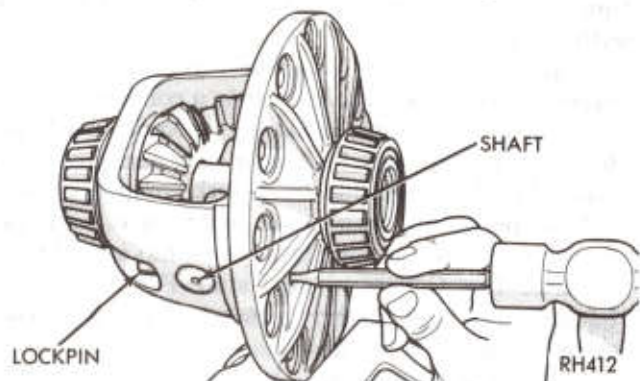

Fig. 7—Removing Differential Pinion Shaft Lock Pin (60 and 60M Axles)
(14) Remove drive pinion nut and washer. Using Tool C-452 and holding Tool C-3281, remove drive pinion yoke.
(15) Using Tool C-748, remove drive pinion oil seal. Remove slinger, front pinion bearing cone and preload shim pack. Record the thickness of the shims in case they should be lost.
(16) Position carrier and tube assembly on an arbor press, then press out the drive pinion stem and rear bearing cone assembly.
(17) Using Tool D-158 and Handle C-4171, remove front pinion bearing cup. Remove rear pinion bearing cup on the **60 and 60M axles** using Tool D-162 and Handle C-4171. Use Tool D-159 with Handle C-4171 on the **70 axle**. Remove and record thickness of shim pack from behind rear pinion bearing cup.
(18) Remove rear bearing cone from drive pinion stem using Tool DD-914-P, adapter ring DD-914-9, and adapters C-293-37 on the **60 and 60M axles** and DD-914-95 adapters for the **70 axles**.
(19) **On 60 and 60M axles** place differential case in a vise equipped with soft jaws. Drive out lock pin securing differential pinion shaft to case (Fig. 7).